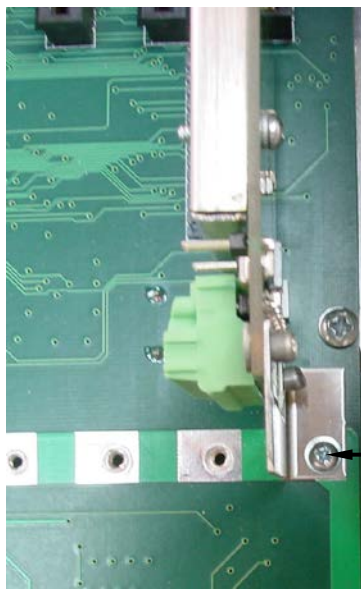

Figure No. 7
7. Remove the screw securing the 825 Scale Input Board (825-SIB) to the main PC board, and then lift the 825-SIB straight up to remove it from the base enclosure. See Figure No. 7.